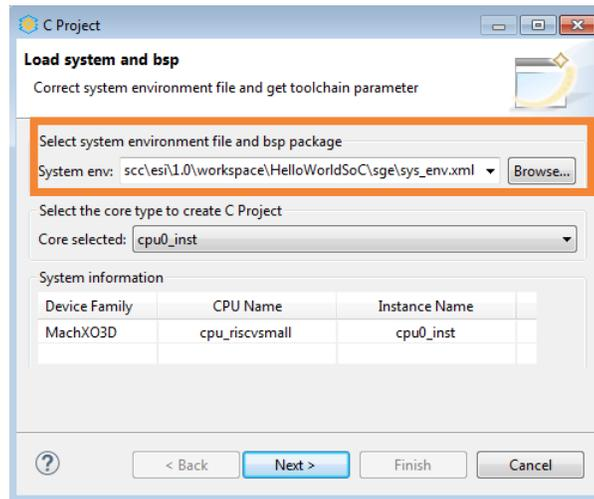

Figure 4.6. Load System and BSP Page
The C Project wizard opens with **Load system and bsp** page (Figure 4.6.).
4. Select the system environment file just generated (Figure 4.6.). Click **Next**.